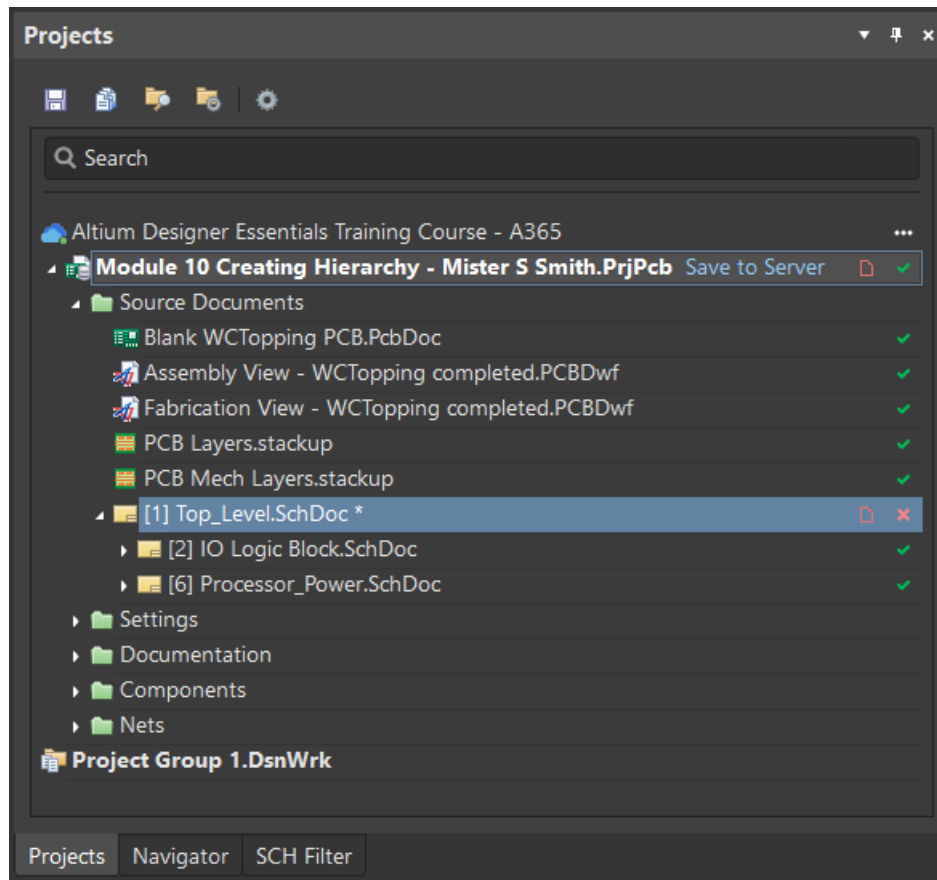

Figure 9. Hierarchical Design Project Structure
29. If the Schematics are not the first documents shown at the *Projects* panel, section Source documents, select and move the `Top_Level.SchDoc` to the first position, See *Figure 9* for reference.